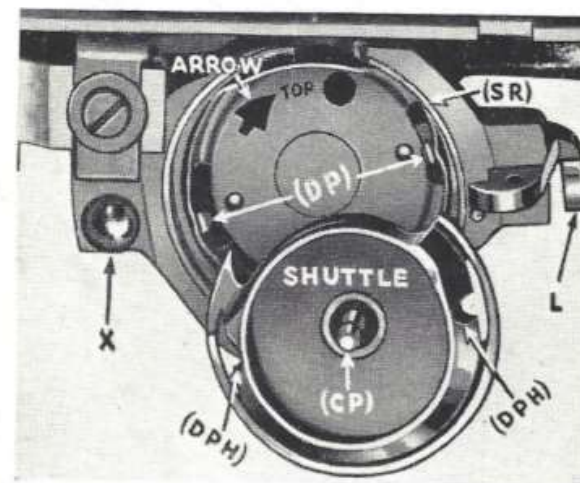

FIGURE 16
See Figs. 15-16. With the head tipped back on its hinges, turn the disc wheel by hand until the **point of the needle just enters the needle plate hole** and so the arrow and the word "top" is exactly in the position shown. With the thumb and first finger of the left hand take hold of the center pin (CP) and hold the shuttle exactly in the position as shown in Fig. 16, so the word "top", stamped on shuttle, lines up with the word "top" in driver, then the driving pin holes (DPH) will slide over driving pins (DP) easily, and **without forcing**, allowing the rim of the shuttle to enter the shuttle race readily. The shuttle race cover will then go into place easily, the fork at one end fitting back of pin (X) and the slot in the other end passing over latch (L) which will snap back to its holding position when the shuttle race cover is pushed back into place.